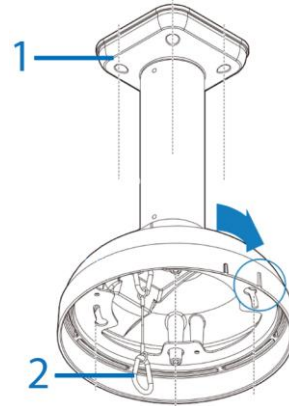

Figure 1
2. Align the holes on the mounting plate with the holes on the mounting pole base (1) (Figure 1) and hold both up to the ceiling.
5. Attach the safety lanyard to the 'hook' on the mount cover (2) (Figure 1) and the 'hook' on the camera base.